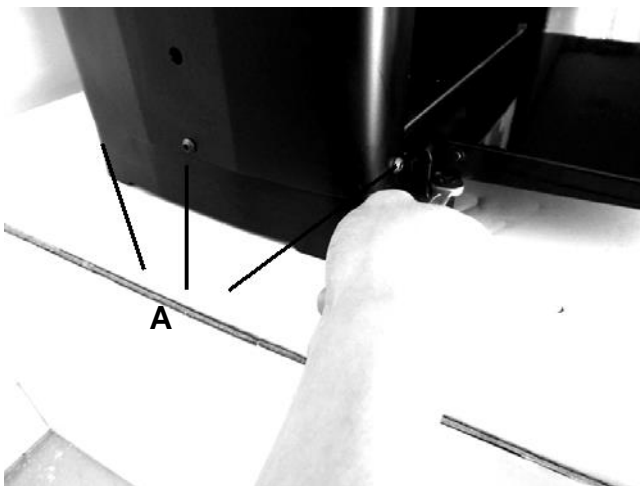

FIG 12
3. On the left side panel, remove the 3 socket head screws (A) located around the bottom edge and remove the side panel to expose the gearbox cover. SEE FIG 12.